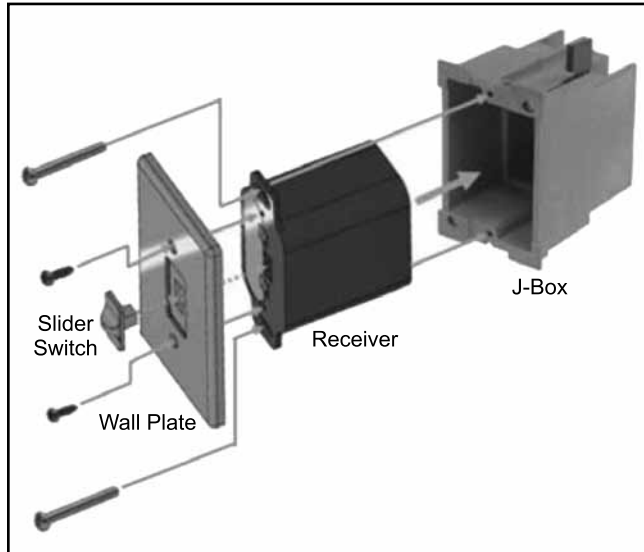

Figure 9: Wall Mounting the Receiver.
2. Install the Receiver in the Junction box using the existing J box screws (Figure 9).
3. Insert the four (4) AA type batteries in the battery compartment with the correct polarity.
9. Using the two (2) screws provided secure the cover plate to the Receiver.